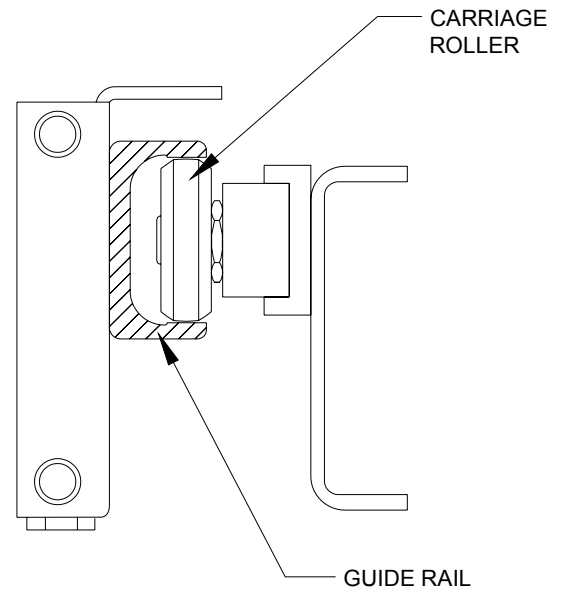

FIGURE 2-2: ROLLER ALIGNMENT AT STOW HEIGHT
- Refer to **Figure 2-2** on following page. Verify the platform height by looking at the vertical height of the carriage rollers relative to the guide rails. Note whether the gap between the roller and guide rail is unequal at the top and bottom of the roller.